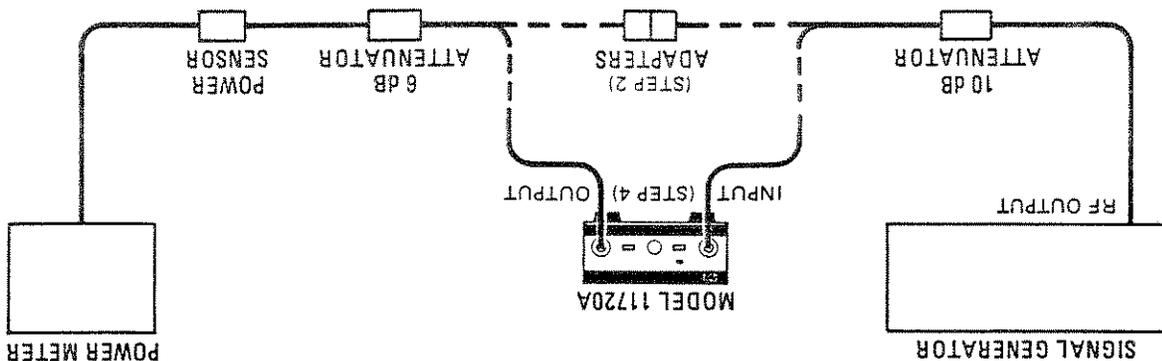

Figure 6. Insertion Loss Test Setup
2. Connect equipment as shown in Figure 6, using the two Type N to APC-7 adapters connected together.